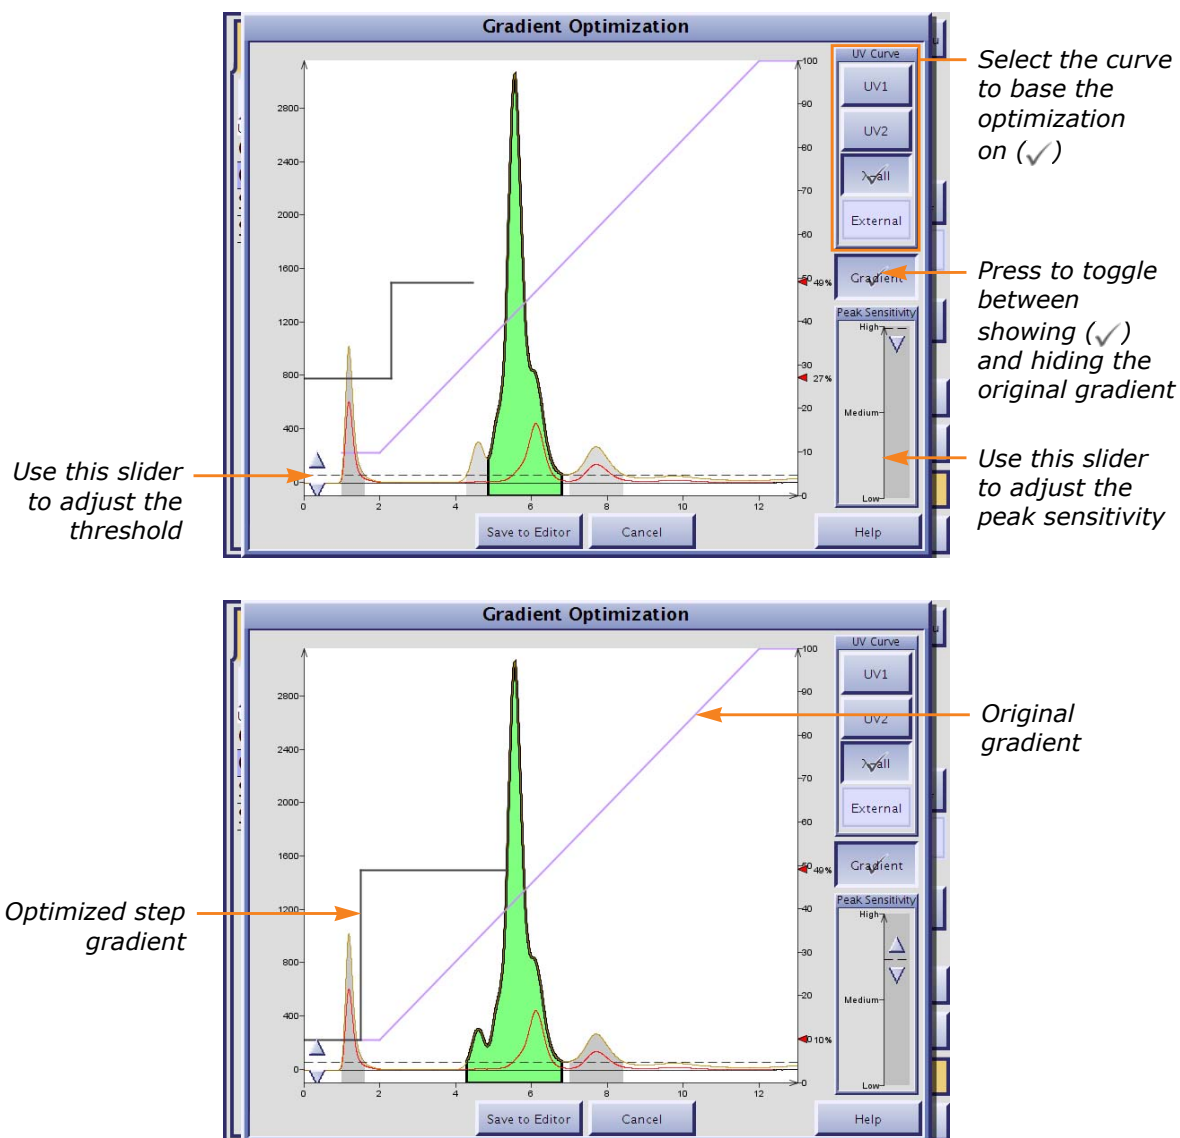

Figure 4-9. Gradient Optimization Dialog
4. To show the actual peaks, adjust the peak sensitivity and/or the threshold using the sliders (see Figure 4-9).